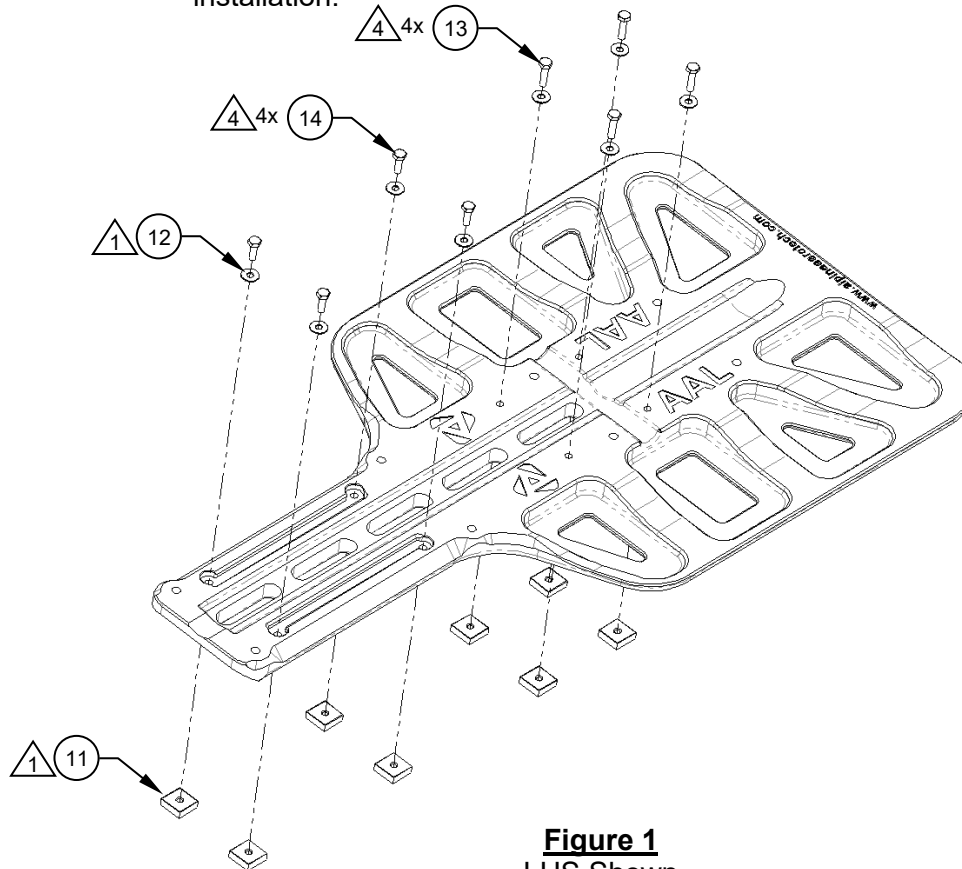

Figure 1
1. Install the Grippers (Item 11) and supplied hardware on the Bear Paw, Detail (Item 1) as shown. Ensure all serrated surfaces on the Grippers are facing down (serrations must be common to the ground). Ensure Threadlocker (Item 15) is applied (mandatory). Torque all Gripper fasteners IAW General Note 2. Reference Figure 1.